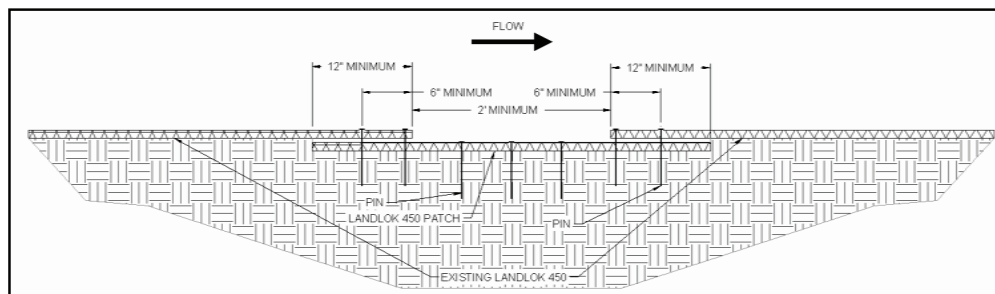
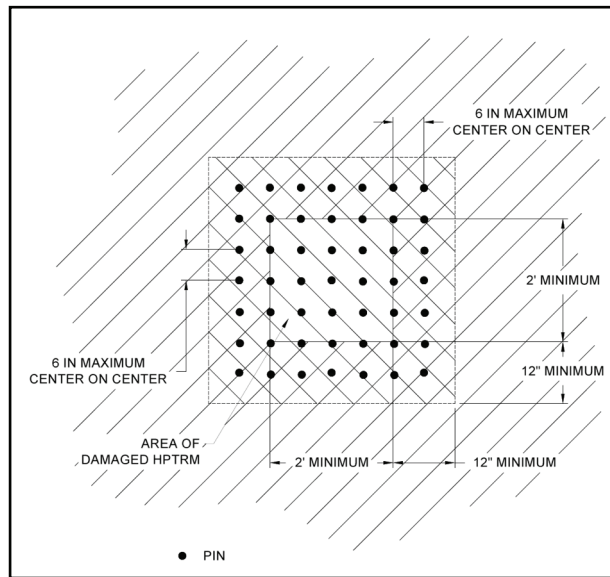

Figure 14: Landlok 450 Patch Cross Section
Figure 15: Landlok 450 Patch Plan View
- A. *Acceptable (A)* - The rated area is in satisfactory, acceptable condition, and will function as designed and intended during the rain event. Landlok 450 has no exposed edges, is installed tightly by maintaining direct contact to the slope surface with no rilling beneath, and has over 90% vegetation cover. There is no noticeable damage present.
- B. *Minimally Acceptable (M)* - The rated area has a minor deficiency that needs to be corrected. The minor deficiency will not seriously impair the functioning of the area during the next rain event; however, the overall reliability of the project will be lowered because of the minor deficiency. Landlok 450 has 75% vegetation cover with un-vegetated patches as large as one square yard. Edges of Landlok 450 are exposed with noticeable damage. Minimal erosion has occurred underneath Landlok 450.
- C. *Unacceptable (U)* - The rated area is unsatisfactory. The deficiency is so serious that the area will not adequately function in the next rain event. Landlok 450 has been physically torn, ripped, or lifted from the slope surface. Less than 75% vegetation cover is present with un-vegetated patches being greater than 1 square yard, and there is evidence that erosion is occurring beneath Landlok 450.
3. To repair Landlok 450, cut out and remove damaged areas in a square configuration a minimum size of 2 ft by 2 ft. Remove all vegetation and debris atop of Landlok 450. Loosen the top 1 to 2 in of soil in the patch area then seed. The subgrade of area to be patched shall be prepared to be smooth and uniform and transition smoothly into the in-situ area. Cut a square Landlok 450 patch a minimum of 12 in greater than the damaged area for all four sides of the patch. Overlap the patch area in all directions a minimum of 12 in. The patch overlaps shall be tucked under the existing damaged Landlok 450 material (Figure 14 and Figure 15)